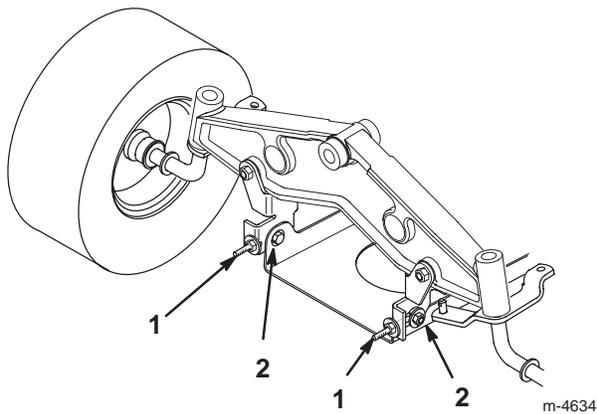

Figure 52
- To adjust the front-to-rear blade slope, loosen the front pivot plate mounting bolts slightly (Fig. 52).
- Rotate the locknuts on the eyebolts to change the adjustment (Fig. 52). To raise the front of the mower, tighten the eyebolt locknuts. To lower the front of the mower, loosen the eyebolt locknuts.
- When the front-to-rear slope is correct, tighten the pivot plate mounting bolts (Fig. 52).